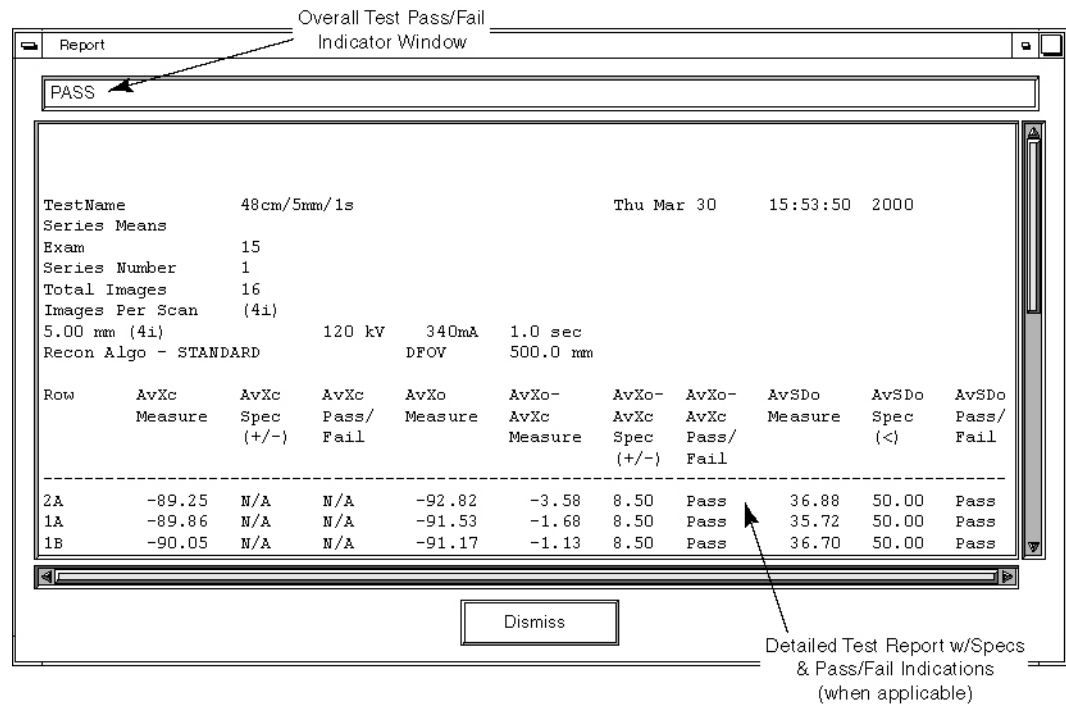

Figure 6-3 Image Analysis Tool User Interface - Test Results Report Window
- a.) Verify the Overall Test Pass/Fail Indicator Window of the Report display indicates PASS. (See Figure 6-3, on page 189 \(Pro 16\) or Table6-4 \(LS 16, Ultra, Plus, RT\).)